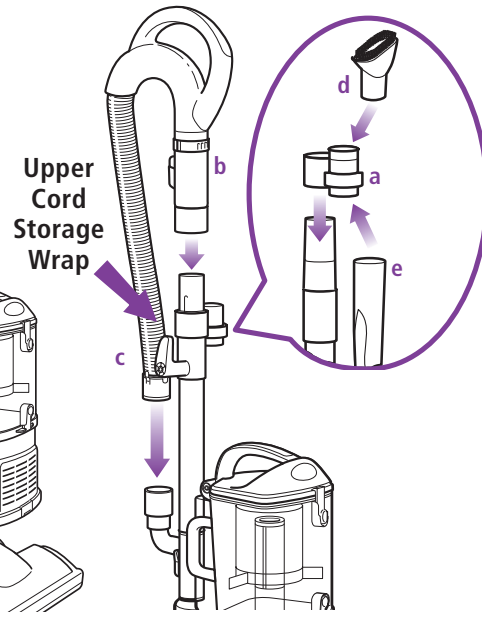

Fig. 11
- 5 Push the handle (b) onto the top of the extension wand until you hear it click into place. **(Fig. 11)**
- 6 Insert the end of the stretch hose (c) into the connector on the back of the detachable canister. **(Fig. 11)**
- 7 Store the dusting brush (d) and the crevice tool (e) on the mounts of the accessory holder. **(Fig. 11)**